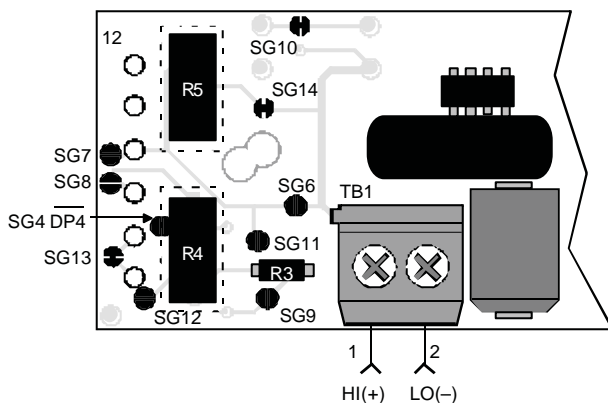

Figure 3. R4 and R5 Installation
2. Span (Gain) and Zero (Offset) Adjustments (See Figure 3): Locations are included on the DMS-EB-AC/DC to add user-supplied potentiometers R4 and R5. Recommended values for these two components are as follows: R4: 2K Ω , 10-20-turns; R5: 50K Ω , 10-20 turns. Vishay's T93YA series potentiometers are suitable for this application. Make sure to use only RoHS-compliant components and solders when making modifications to DMS-EB-AC/DC.